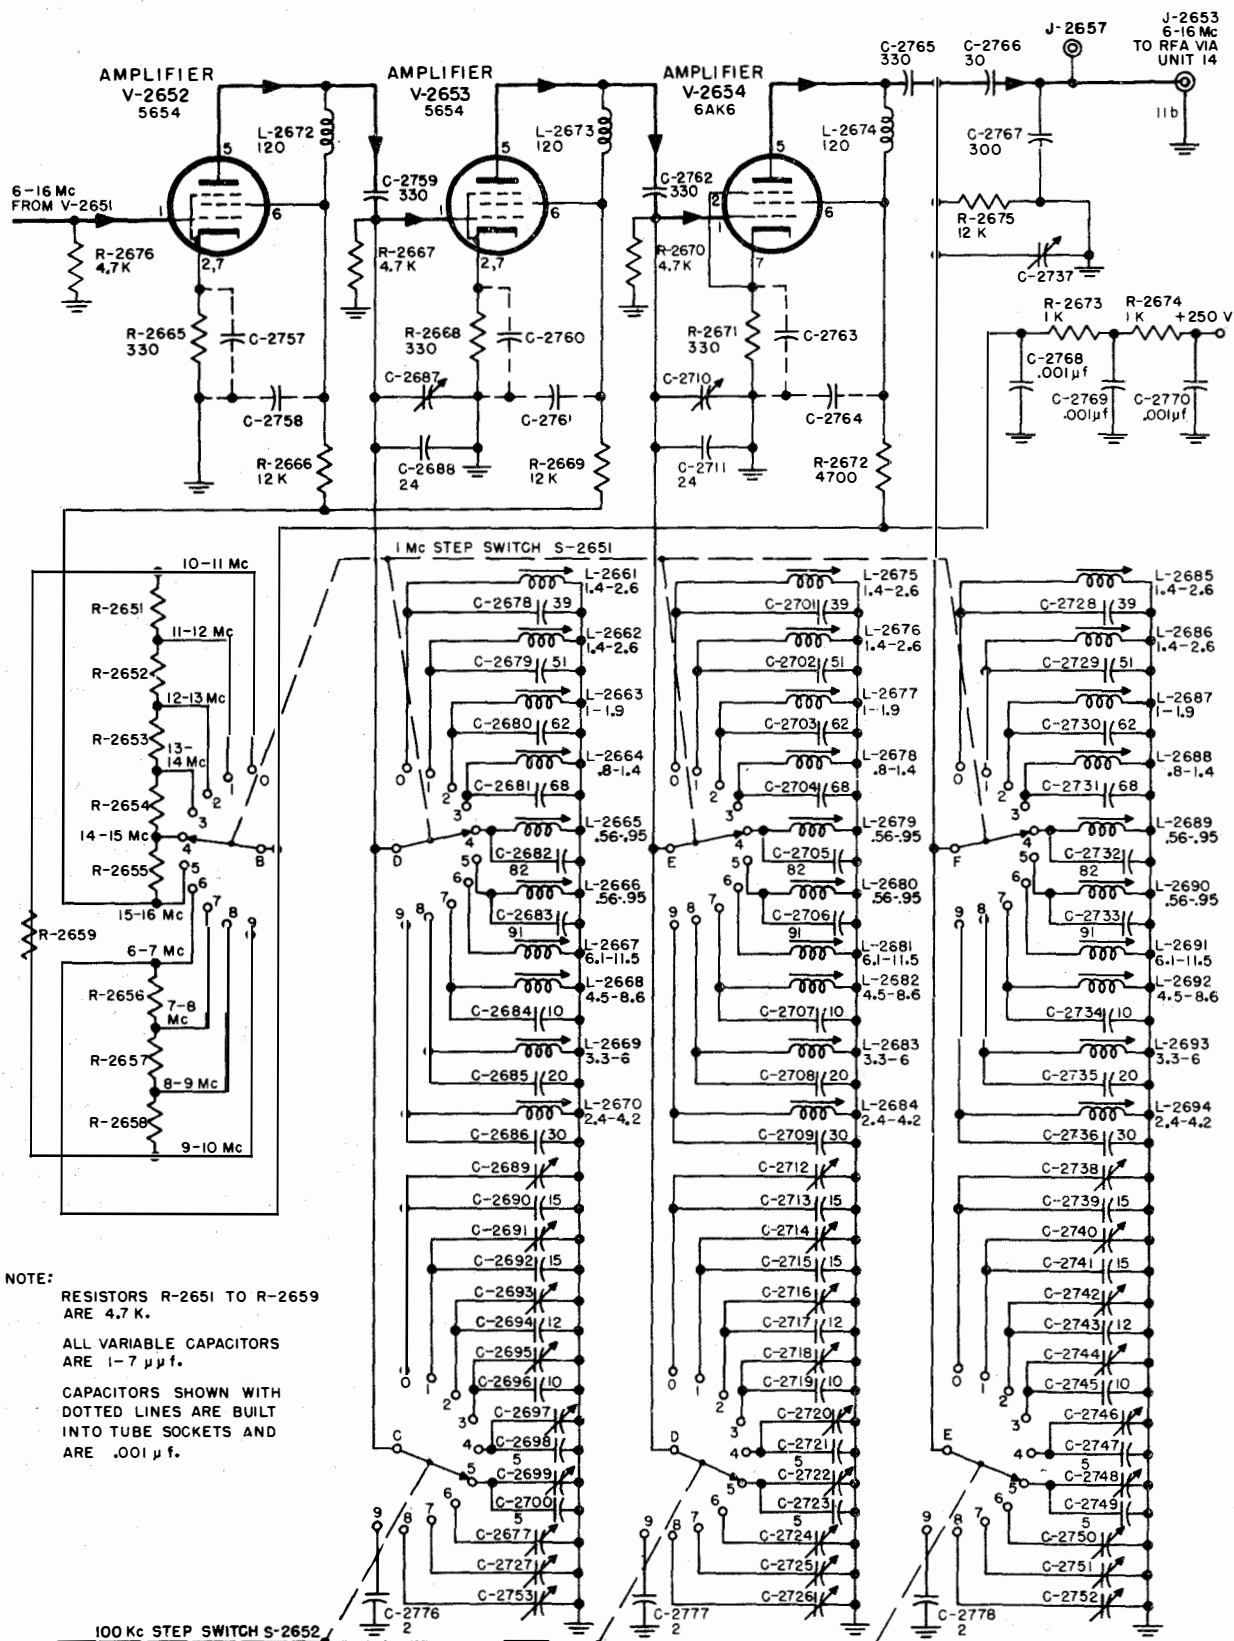

Figure 2-37. RFO Unit 11B, Amplifiers V-2652, V-2653 and V-2654, Simplified Schematic
(2) AMPLIFIERS V-2652, V-2653, AND V-2654.—These amplifiers (figure 2-37) are identical except that V-2652 and V-2653 are provided with dropping resistors R-2651 through R-2659, which are wired to contacts of section B of switch S-2651. By changing the screen and plate voltage at different frequencies, the gain of these amplifiers is varied, and approximately equal output is obtained for all frequencies. The inter-stage filters for these amplifiers are selected and tuned by S-2651 and S-2652 in the same manner as for the mixer. The final 6- to 16-mc output (11b) is coupled by the voltage divider, C-2766 and C-2767, to J-2653. Test point J-2657 is provided for testing output 11b (approximately 2.4 volts). The entire B+ supply is decoupled by a filter network composed of C-2768, C-2769, C-2770, R-2673, and R-2674.
(3) 1-MC STEP SWITCH S-2651.—The above table shows the filter networks selected by the 1-mc step switch, S-2651, and the dropping resistors successively removed from the amplifier circuits as the switch is rotated progressively from positions 6 to 9 and then from 0 to 5.